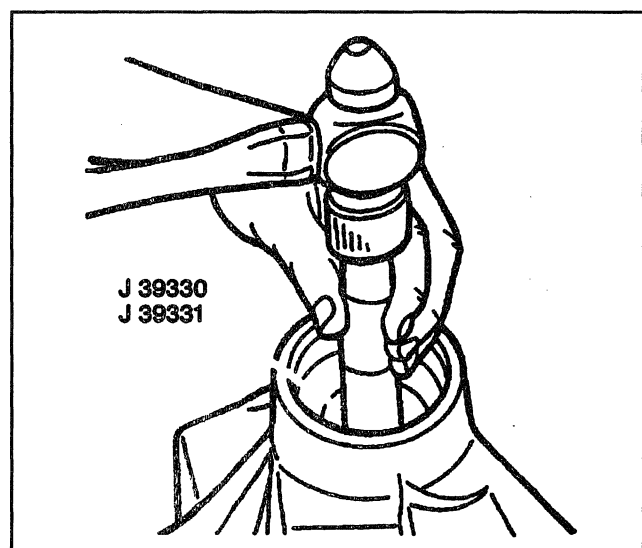
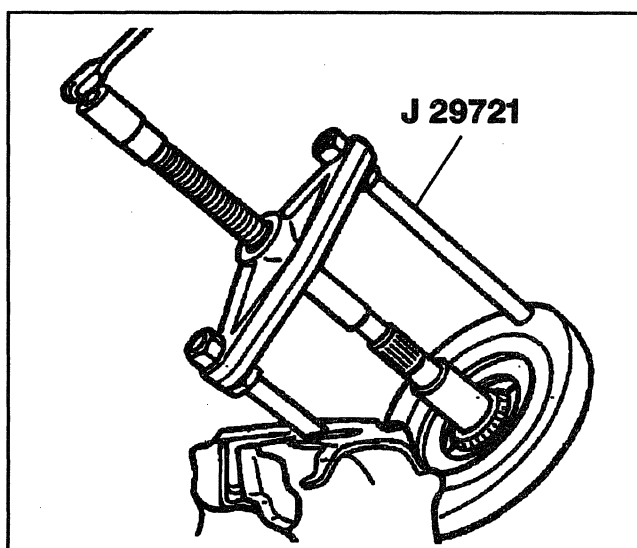

Figure 12—Removing the Bearing Cups
Figure 13—Removing the Pinion Inner Bearing
24. Bearing cups (3 and 7) from the axle housing using J 39330 and J 39331 (Figure 12).
25. Pinion adjusting shims (4) and baffle (if used).
26. Pinion inner bearing (3) using J 29721 and J 29721-70. (Figure 13).